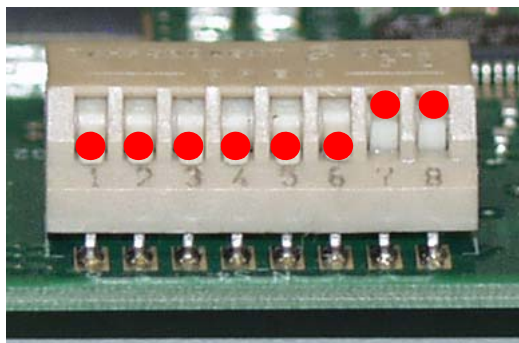

Figure 8 Configuration switches of the Agilent 3100 OFFGEL Fractionator
- 4 Verify configuration dip-switches (Figure 8):